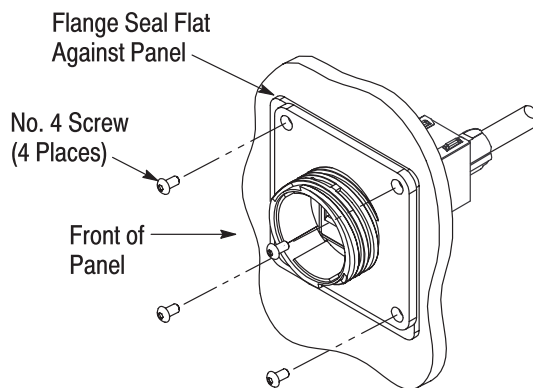

Figure 4
5. Insert the receptacle assembly into the panel until the flange seal is flat against the panel. See Figure 4.